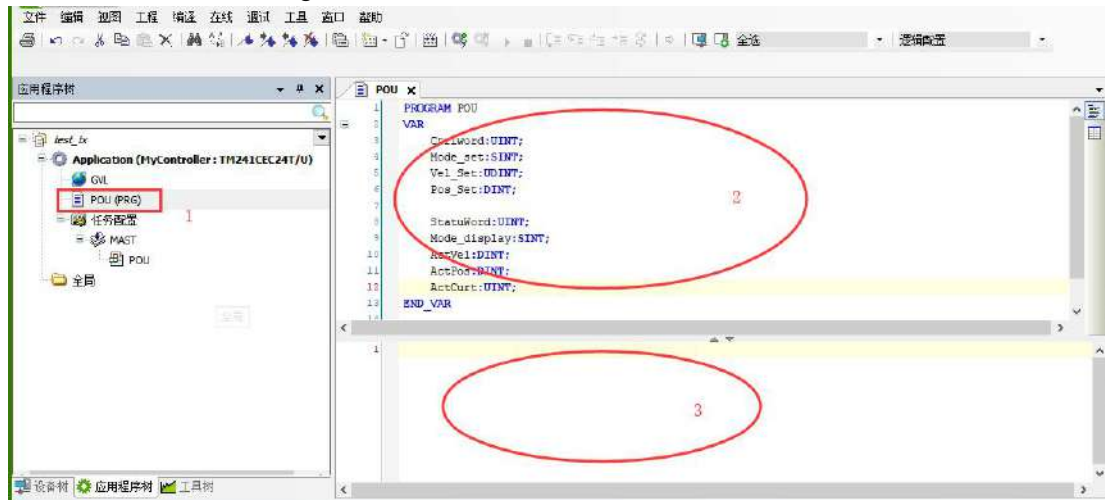

Figure 7-20 Write POU program
- b. Double click **"POU"**, define the variable in area 2, write the logic program in 3 area, click **"Compile"**, confirm that there is no error, and proceed to the next step, as shown in Figure 7-20.